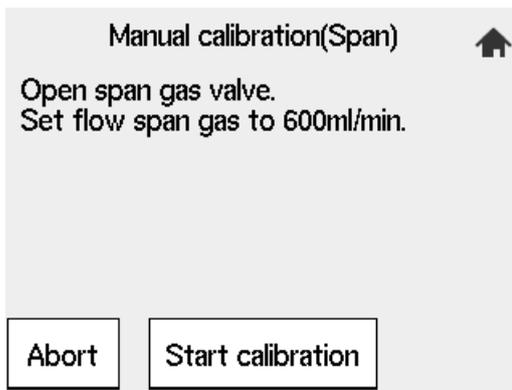

Figure 6.17 Span gas Flow Display
- (3) After the message of Figure 6.17 appears, feed the span gas to follow the message. Open the span gas flow setting valve on the flow setting unit and adjust the flow to 600 ± 60 ml / min. For the valve, loosen the locknut and slowly turn the valve shaft counterclockwise. To check the flow rate, monitor the calibration gas flowmeter.